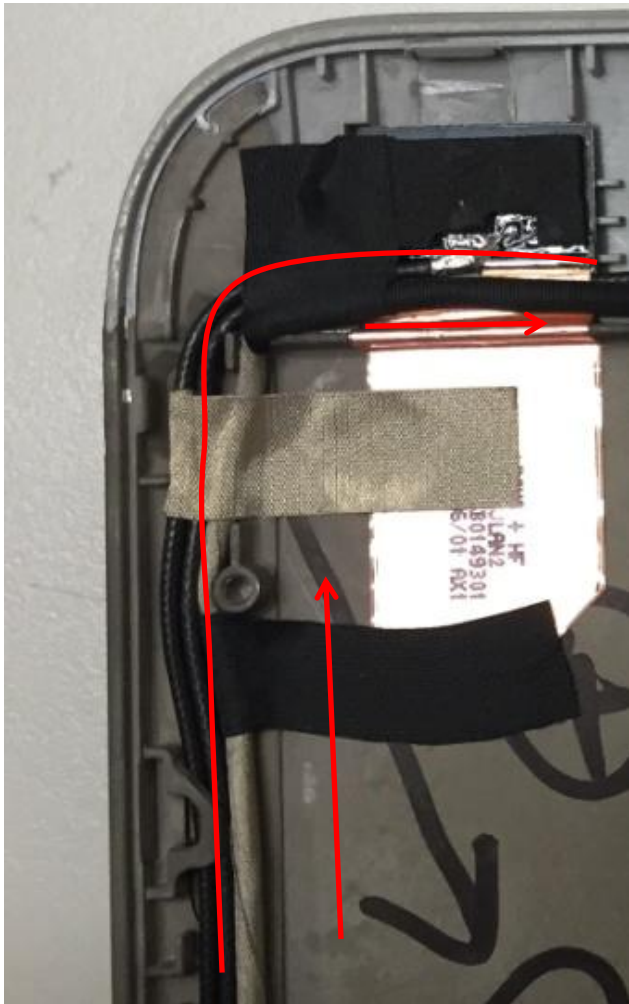

Fig.1
1. Disassemble antenna cable & camera cable from LCD cover.(Fig.1)